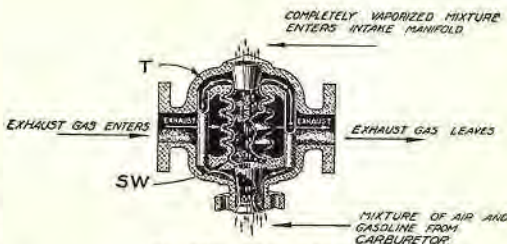

Fig. 56C. The gas heater.
The carburetor used on the Franklin is of Franklin design and manufacture. It consists of a carburetor (Fig. 56), with starting devices, air cleaner (N), and a gas heater (Fig. 56C). The choke (L), although shown and described below, has been found unnecessary.
Gas heater: The fuel mixture passes from the carburetor to the gas heater (Fig. 56C).